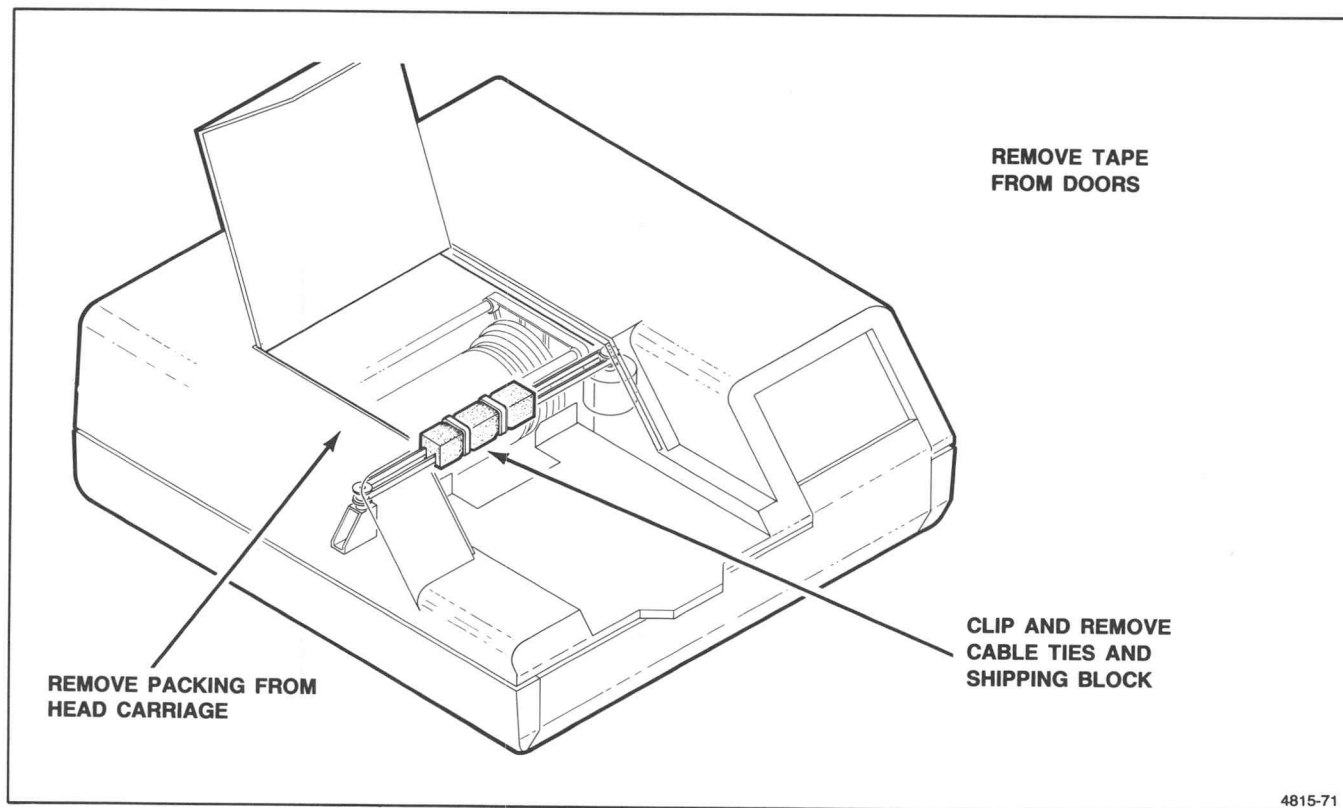

Figure D-4. Freeing the Internal Copier Assemblies.
Remove the carriage drive belt clamp from the carriage drive belt — see Figure D-4. Remove any absorbent material from around the head carriage.
- The carriage drive belt clamp was removed from the carriage drive belt — see Figure D-4.